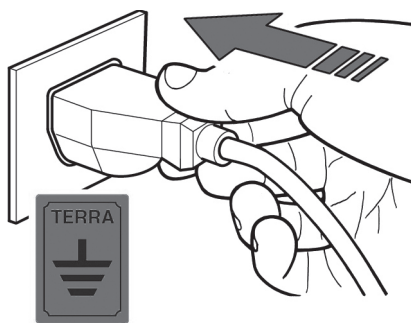

fig. 11
- It is imperative that the complete equipment is properly connected to an efficient earth connection (fig. 11).
- 3) Insert the power plug of the Showcase into the socket provided by the customer (fig. 11), making sure that it has earth contact and that there are no multiple sockets connected .